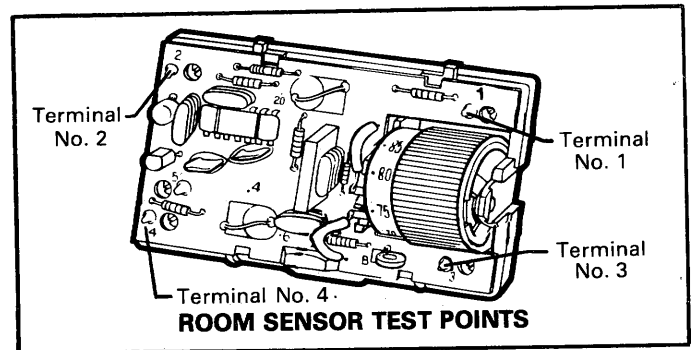

FIGURE 10
1 - Remove cover from room sensor. Connect voltmeter to terminals 3(-) and 4(+). See Figure 10.
- 5 - Table 1 lists voltage ranges that reflect conditions at room sensor. Refer to Figure 10 for meter connections.